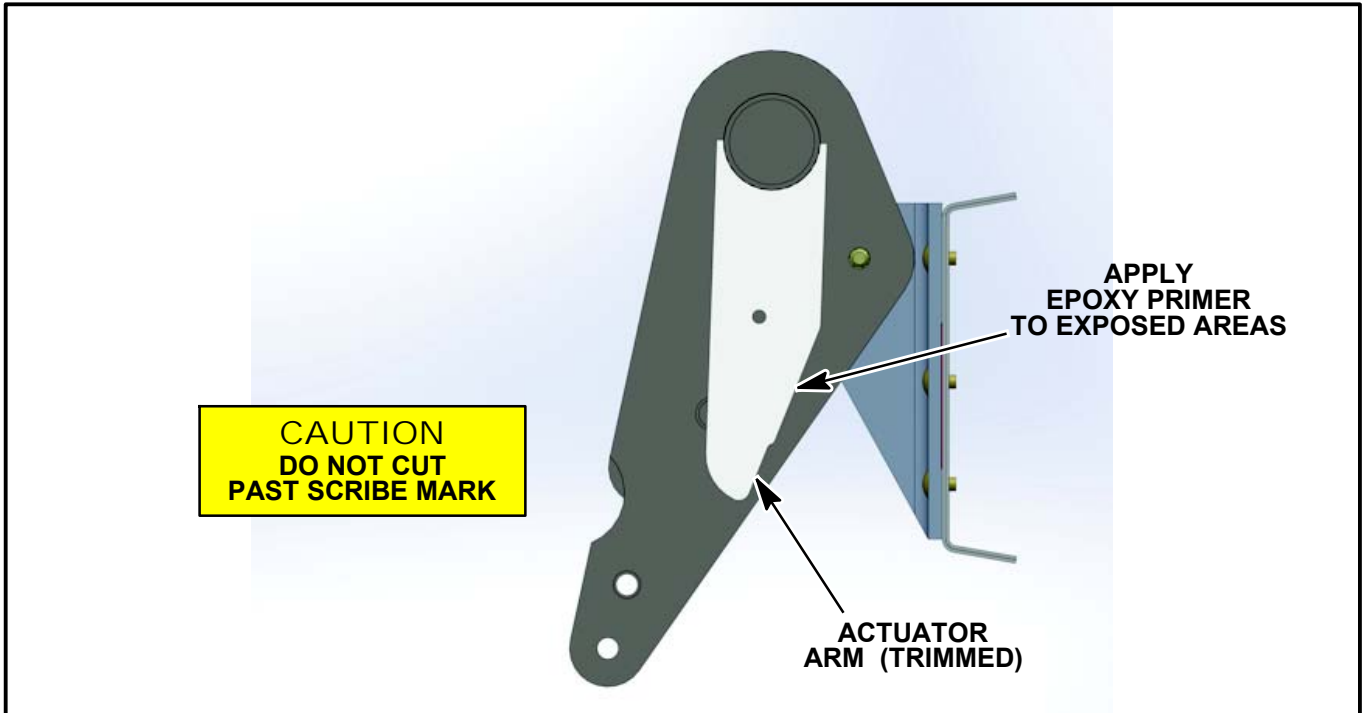

Figure SIM20-142-14 - TRIM ACTUATOR ARM TO SCRIBE MARK
- 1.15. Carefully cut the actuator arm along the mark with a suitable cutoff wheel or small grinder. (Refer to Figure SIM20-142-14.)